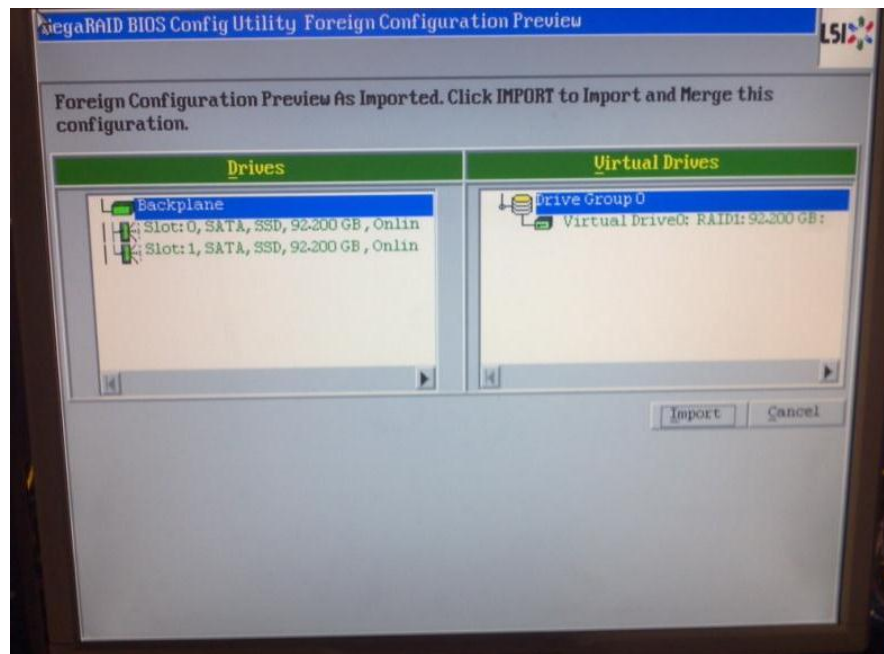

Figure 16: WebBIOS Foreign Configuration Preview
8. If the information in Figure 16 is not shown on your screen, the MegaRAID configuration may not be imported correctly. In this case, please 'Exit' the utility without saving the configuration, then power cycle it to import the configuration again by repeating this step.